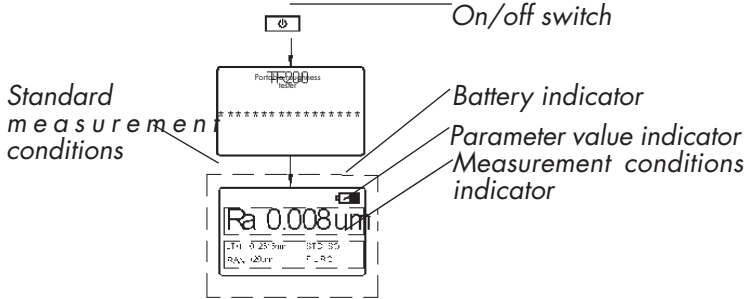

Figure 2-4 Switch-on process
Press and release Power key to switch on. The instrument automatically displays model, name and information of manufacturer, and then enters basic measurement status, as shown in Figure 2-4.
**Contents of basic measurement status entered in the first switch-on are default settings of this instrument. Settings and data of last switch-off will be displayed in the next switch-on. Basic measurement status will be entered automatically for each switch-on (as shown in Figure 2-4).**